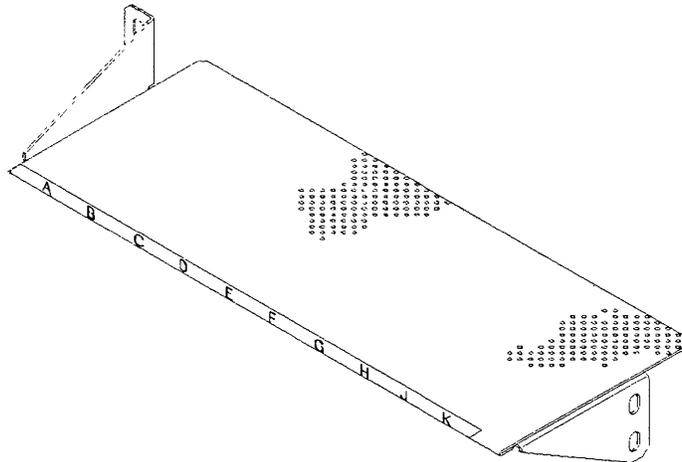

Figure 1-13. Safety Grid (P/N 03F4747)
Step 3. ___ A safety grid P/N 03F4747 (see Figure 1-13) is supplied in the shipping group for 3745 Model 150 or 170 with LIB2 board(s).